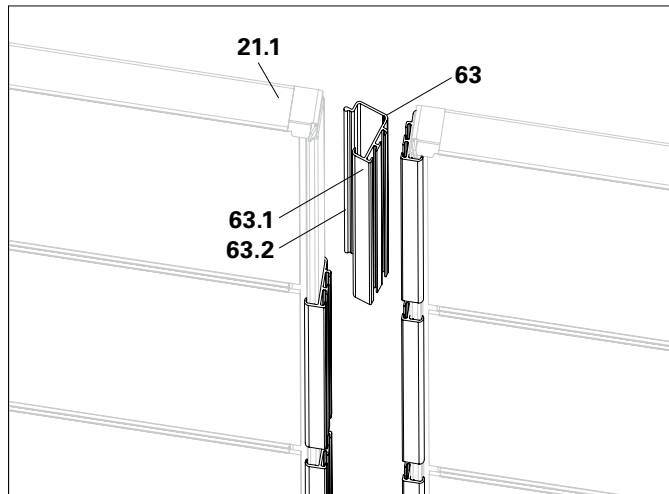
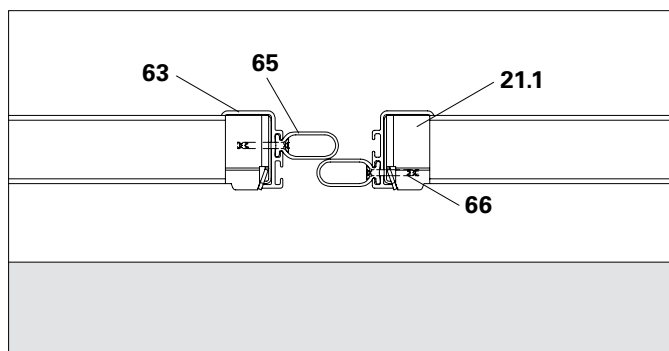

Fig. C2.11
Fig. C2.11b
1. Mount Cover Clip Profile (63) on the vertical frame (21.1) of the Screen Element. First, place the short angle (63.1) on the outside of the Screen Element, then snap open the long angle (63.2). (Fig. C2.11 + C2.11a)
2. Cut the Draw-In Profile LPS 20/55 (65) or 18/93 (63.4) diagonally at the top and bottom according to requirements, which then allows the screw in Step 4 to be used.
4. Secure the Draw-In Profile at the top and bottom using Drilling Screw ST 5.5 x 45 – TX30 GEO (66), in order to prevent sliding out. Screw Drilling Screw through Draw-In Profile, Cover Clip Profile and Screen Element frame (21.1). (Fig. C2.11b)